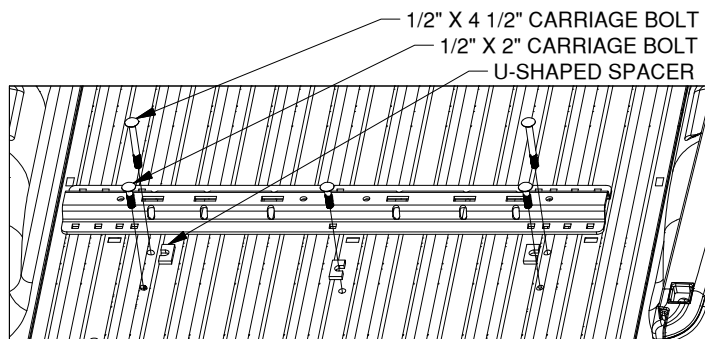

Figure B1: View looking into truck bed from rear of truck.
- 1. The rear mounting rail.** Re-position the rear mounting rail over the drilled 9/16" holes in the bed. Install two 1/2" X 4 1/2" carriage bolts into the two forward drilled positions (holes over the crossmember) and install three 1/2" X 2" Carriage bolts through the three rear drilled positions, as shown in figure B1. Place U-shaped washers between the bed and the mounting rail. Two spacers (as near as possible) by the 4-1/2" carriage bolts and one spacer around middle carriage bolt.